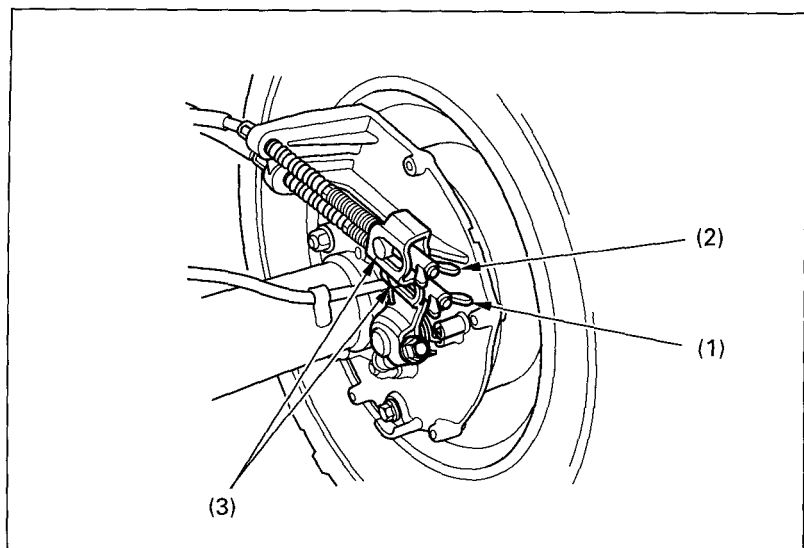

Fig. 4-29      (1) Brake pedal adjusting nut
(1) Rear brake pedal
To adjust the free play, turn the brake pedal adjusting nut ( 1 ), (Fig. 4-29 ), located on the brake operating rod at the rear of the frame. Make sure the cut-out on the adjusting nut is properly seated on the brake arm pin (3).
To adjust the free play, turn the brake lever adjusting nut (2 ), (Fig. 4-29 ), located on the brake operating rod at the rear of the frame. Make sure the cut-out on the adjusting nut is properly seated on the brake arm pin (3).